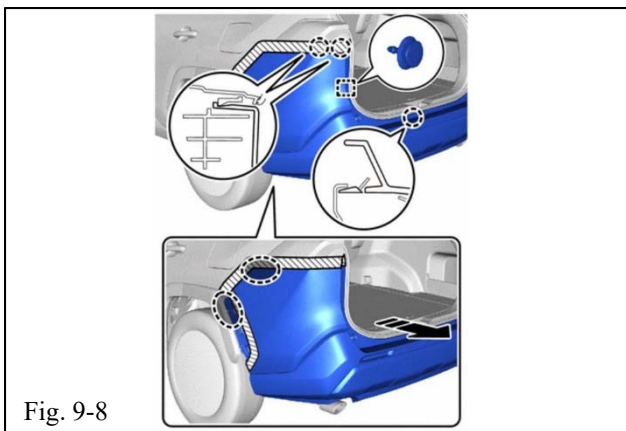

Fig. 9-8
- (k) Detach the (3) claws and (1) garnish retainer to remove the rear bumper assembly (Fig. 9-8).